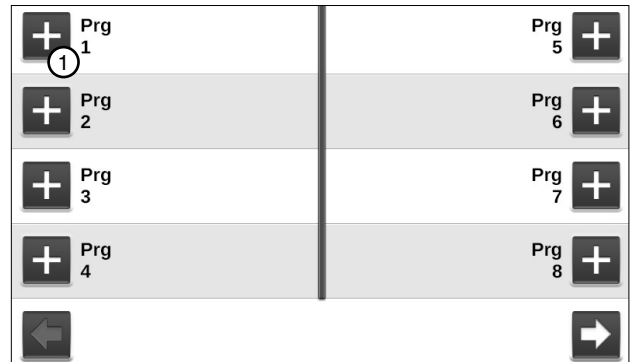

Figure 147-2 Sector Program Screen
1. Push **Menu**, **Programs**, and **Sector Programs** to view the Sector Programs screen. Refer to Figure 147-2.